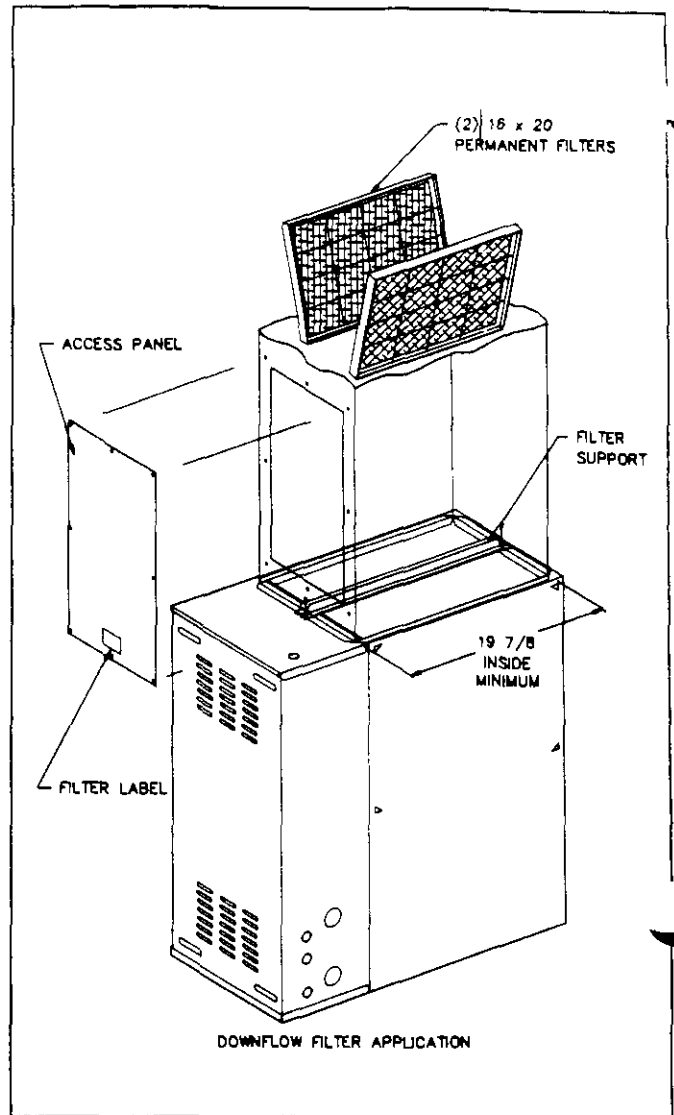

FIGURE 27
2. In downflow position, return air duct must be a minimum 19-7/8" inside depth. See Figure 27.